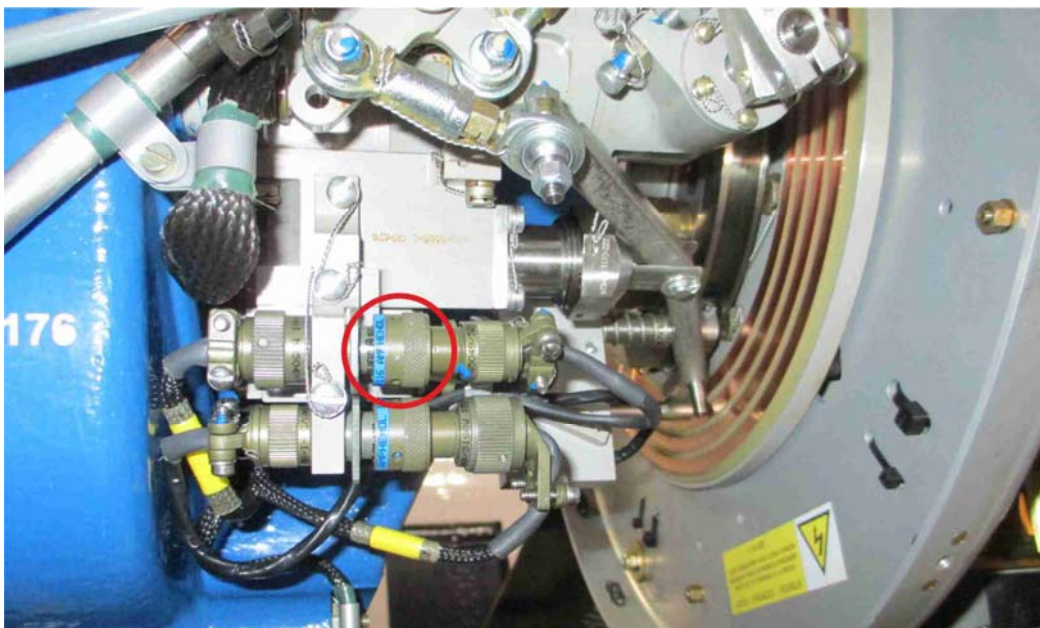

Fig. 2
- Disconnect the M893 connector of the propeller pitch lock (component of the P-W22-1 propeller governor) on the LH / RH engine - see Fig. 2.